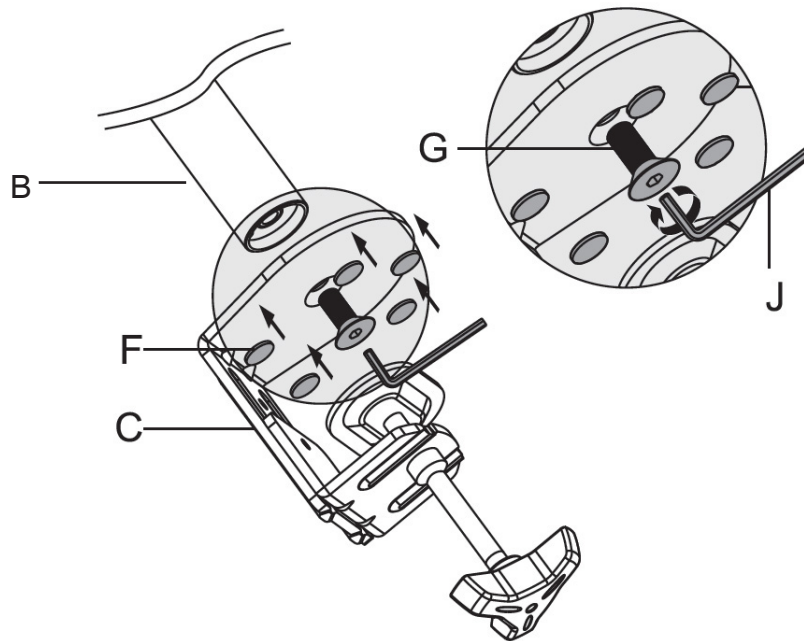

Figure 1
1. Attach the C-Clamp (C) to the Tube Support (B) using Bolt (G), tighten the bolt using the 6mm Allen Key (J), see **Figure 1**.
2. Place the Rubber Pads (F) onto the upper C-Clamp, see **Figure 1**.